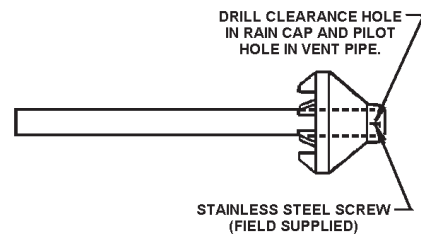

FIGURE 22.
- Cement rain cap to smaller diameter kit pipe, see Figure 22.
NOTE: Instead of cementing the smaller pipe to the rain cap, a field-supplied stainless steel screw may be used to secure the 2 components together when field disassembly is desired for cleaning, see Figure 22.
- Cement the rain cap to the smaller diameter kit pipe, see Figure 22.